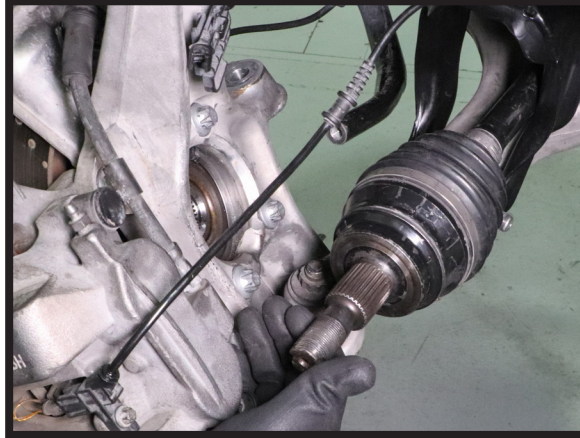

FIGURE 26
4. REINSTALL AXLE INTO FRONT WHEEL BEARING. (FIGURE 26)